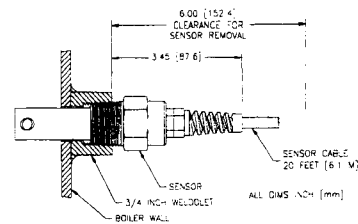

FIGURE 2-2 Installing Sensor Into Vessel Wall Using a Weldolet
- Install the sensor into the vessel or pipe run so that the process flow directly contacts the end of the sensor (see Figure 2-2).
1. Refer to Figure 2-2, and install a 3/4-inch NPT weldolet into the vessel wall.